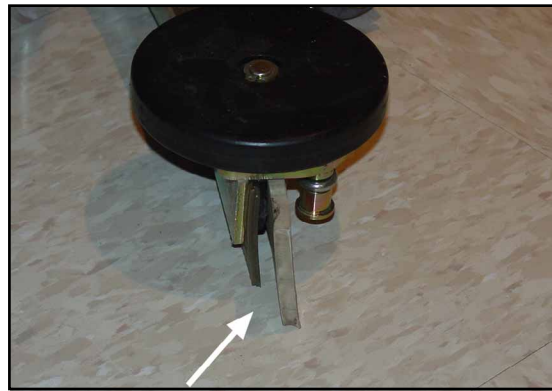
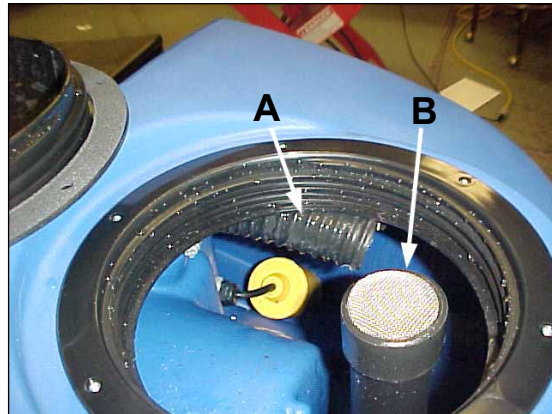

Figure 40
Figure 41
The squeegee blade may be rotated for longer life. Keep sharp corner on floor for best cleaning results. See figure 40. To rotate follow this procedure:
3. Recovery Hose - Position water hose inside recovery tank. Recovery hose is located behind threaded lip (see figure 40, A). **NOTE: Do not place hose in vacuum intake tube (see figure 41, B), damage will occur.**